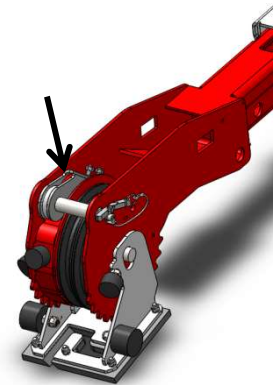

Figure 55
- Attach the loop of the winch cable to the winch head. The cable must enter the hole in the plastic from the inside of the winch head, and then the pin can go through the eye of the winch cable. Secure the pin (see figure 55).